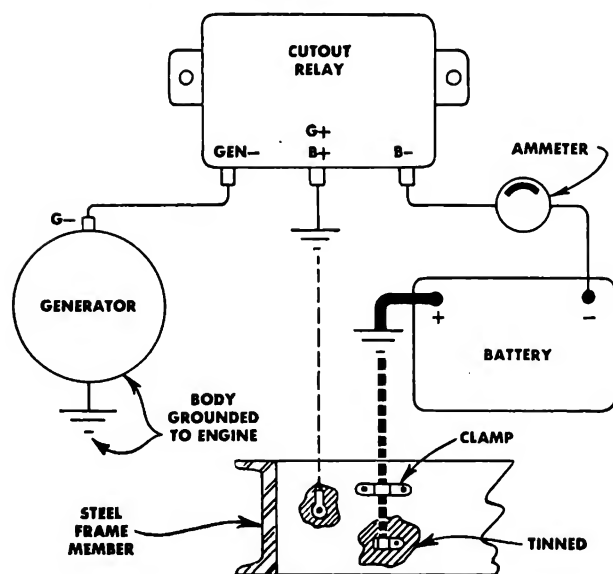

Fig. 11-7
3. The basic wiring diagram for a one-terminal, third-brush current controlled generator used with a cut-out relay is shown in Fig. 11-7. Equipment which requires low generator output, such as shovels and power units, will sometimes have this type of generator and cut-out relay.
4. This type of equipment will give satisfactory service provided the G+ B+ terminal of the relay is properly grounded to the same frame member used to ground the battery, as shown in Fig. 11-7, and provided the generator is used only for battery charging.